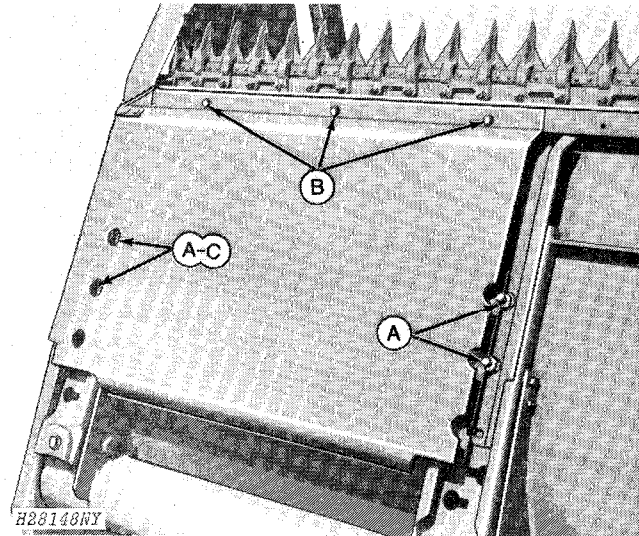

Fig. 49-Installing Skid Plates
A. Starting on the right-hand end of the platform, remove the two self-locking nuts on the round head bolts in each support arm (Fig. 49).
B. Position skid plate over the round head bolts in the sill (Fig. 49). Attach skid plate to sill with three 3/8 x 1-inch self-tapping screws. Insert a drift in the center hole to hold skid plate in position while starting two of the self-tapping screws.
C. Replace only those two self-locking nuts, removed in Step A, on the two round head bolts in the outer support arm (Fig. 49). The other two self-locking nuts will be replaced when the next skid plate is installed. These two self-locking nuts will then overlap both skid plates, holding them in place.